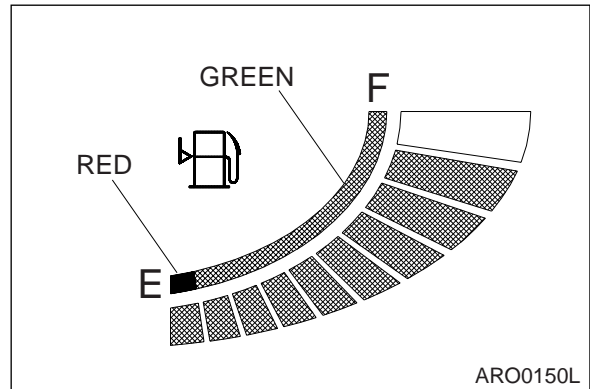

Figure 2
1. Look at fuel level display (Figure 2) on instrument panel in operator's cab to see when it shows. The display is divided into ten separated segments, each representing 10 percent of total fuel supply. Also look at level gauge on side of tank to estimate volume of fuel left in tank.